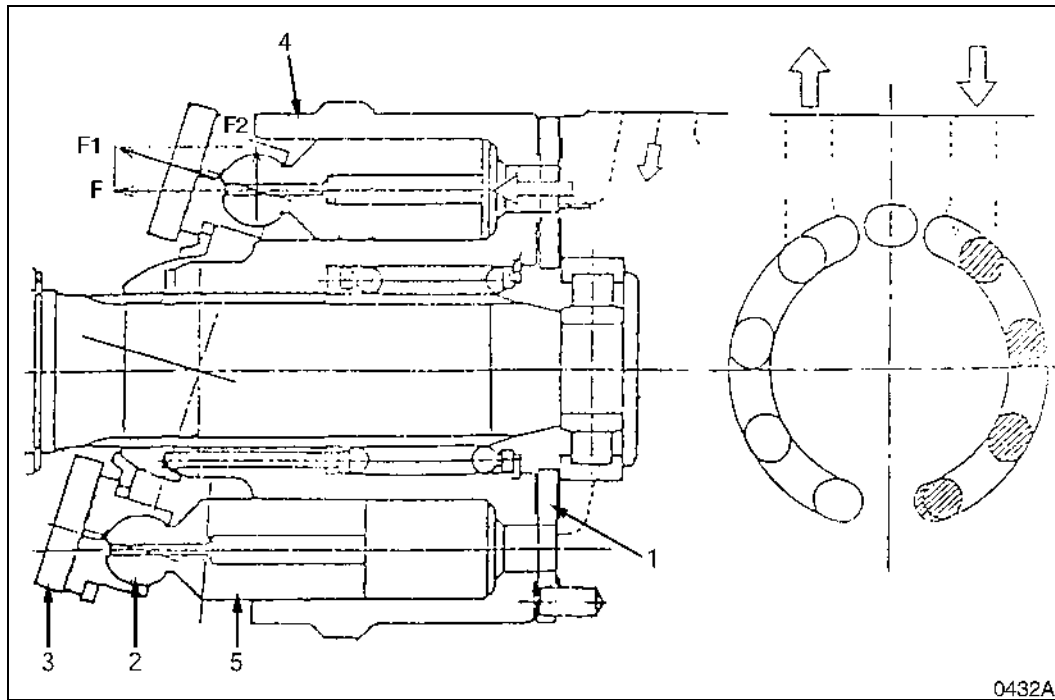

Figure 1
The cross sectional views of the swing motor, show most of the main components of an axial-piston type hydraulic motor. Arrows indicating direction of flow and other graphic symbols provide a general guide for understanding basic operation (Figure 1).
When high-pressure oil enters the cylinder through the inlet port of the valve plate (1, Figure 1), the sliding piston inside the cylinder is driven back, generating force "F" against the shoe behind the piston (2).
Force "F" acts in two different directions, as indicated by the arrows (Figure 1). Force F1 exerts pressure directly on the swash plate (Item 3) to generate oil flow through the motor, while force F2 pushes laterally - at a right angle - against the drive shaft, providing the rotational energy to turn the cylinder block around the drive shaft.